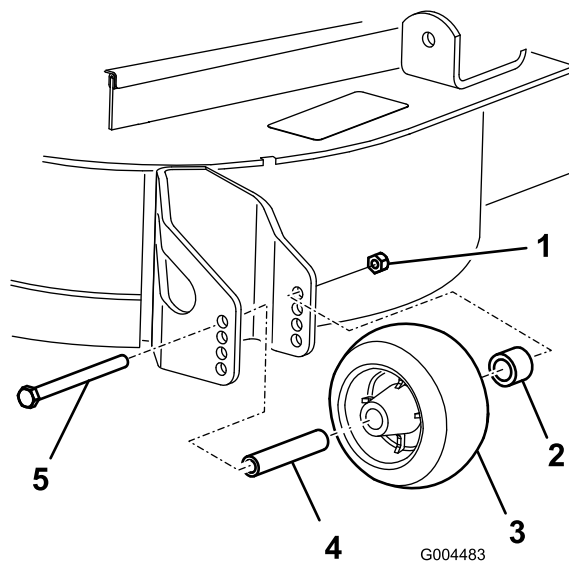

Figure 24
- After adjusting the height-of-cut, adjust the rollers by removing the flange nut, bushing, spacer, and bolt (Figure 24).
- Install the flange nut, bushing, spacer, and bolt. Torque to 40-45 ft-lb (54-61 N·m) (Figure 24).